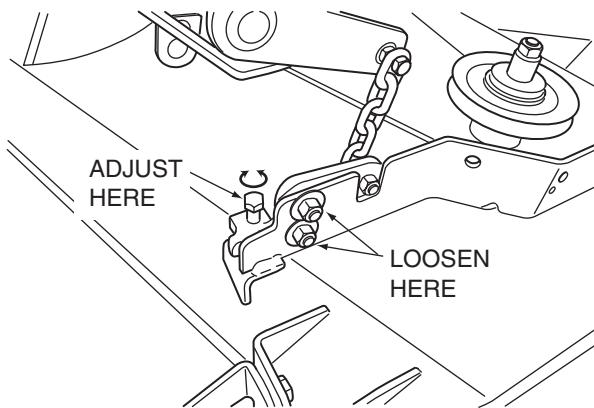

Figure 6-4. Cutter Deck Level Adjustment
1. On the front LH side of the cutter deck locate the cutter deck level adjusting bracket. See Figure 6-4.
2. Place a 0.015 feeler gauge in the slot between the rotor and the armature. See Figure 6-4.